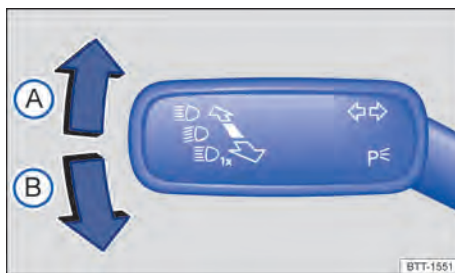

Fig. 79 On the left-hand side of the steering column: direction indicator and high beam lever.
2. Move the direction indicator and high beam lever from the centre position to the required position → Fig. 79.